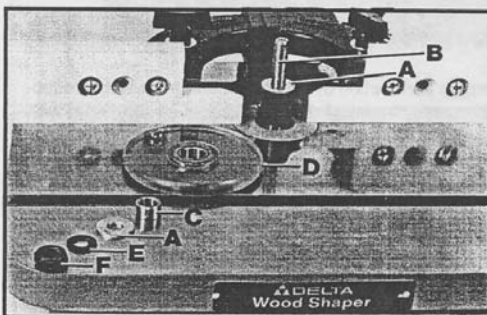

Fig. 16
To assemble the spindle guard on the shaper, place one of the washers (A) Fig. 16, on the spindle, (B) over either the cutter or collar, as shown.
Insert the 1/2" bushing (C) Fig. 16 into the center of the spindle guard (D) and place the guard onto the spindle (B). The other washer (A) is placed directly over the spindle guard (D).
Position the keyed washer (E) Fig. 16 on the spindle with the key inside the slot on the spindle. Screw on the holding nut (F) firmly on the spindle.